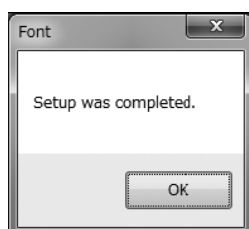

Fig.83
- ⑤ Click "OK" to change the settings to the selected values, and then click the "OK" button in the displayed message box (Fig. 83) to complete the setting process.